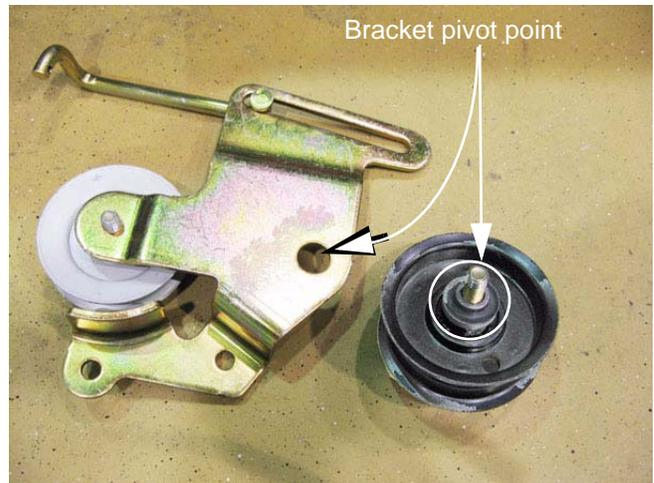

Figure 6.54
9. On the bench, the flat-sheave idler pulley, and the spacers used to position it can be lifted off of the pulley bracket. See Figure 6.54.